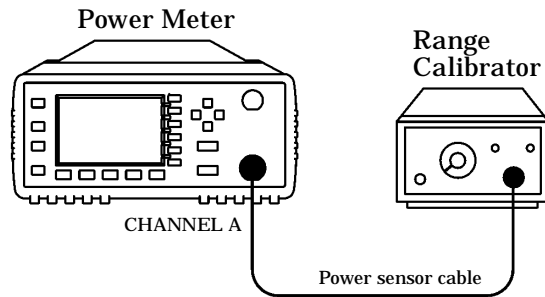

Figure 2-3: Instrument Accuracy (Average Path) Test Setup
1. Connect the equipment as shown in Figure 2-3.